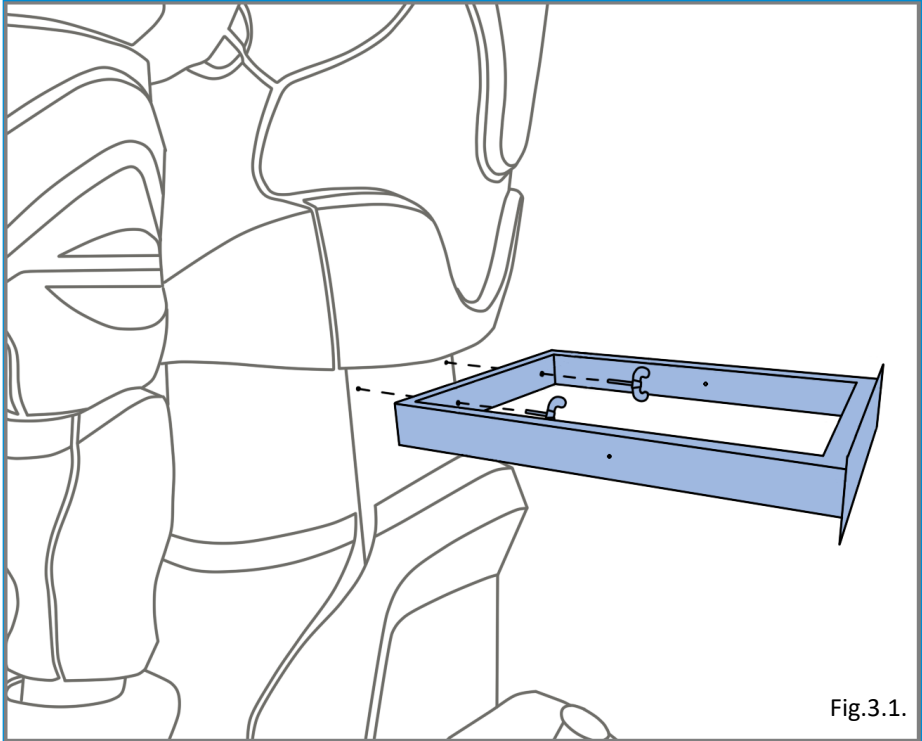

Fig.3.1.
5. Using special screws, detach the holding bracket from the robot, as shown in the figure 3.1.